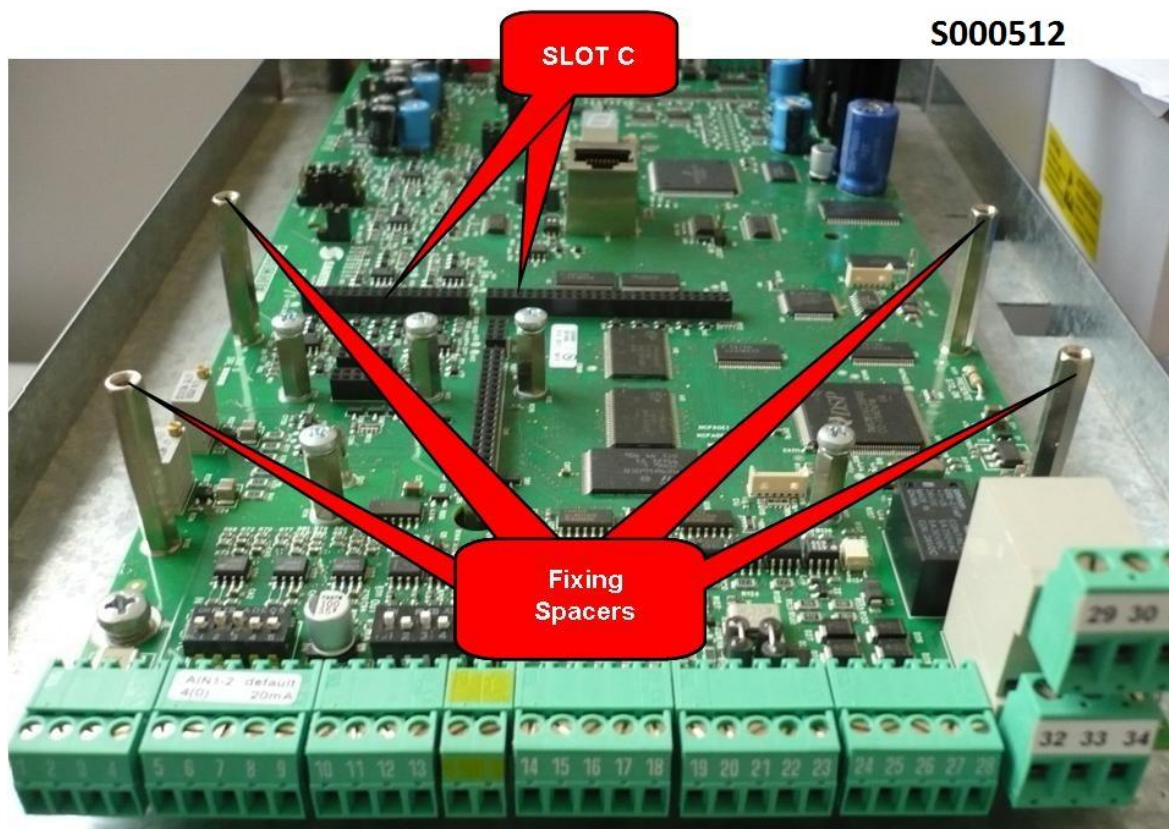

Figure 135: Location of slot C inside the terminal board cover
3. Loosen the two front screws located in the lower part of the inverter cover to remove the covering of the terminal board. You can then reach slot C in the control board where the ES988 is to be installed, as shown in Figure 135.